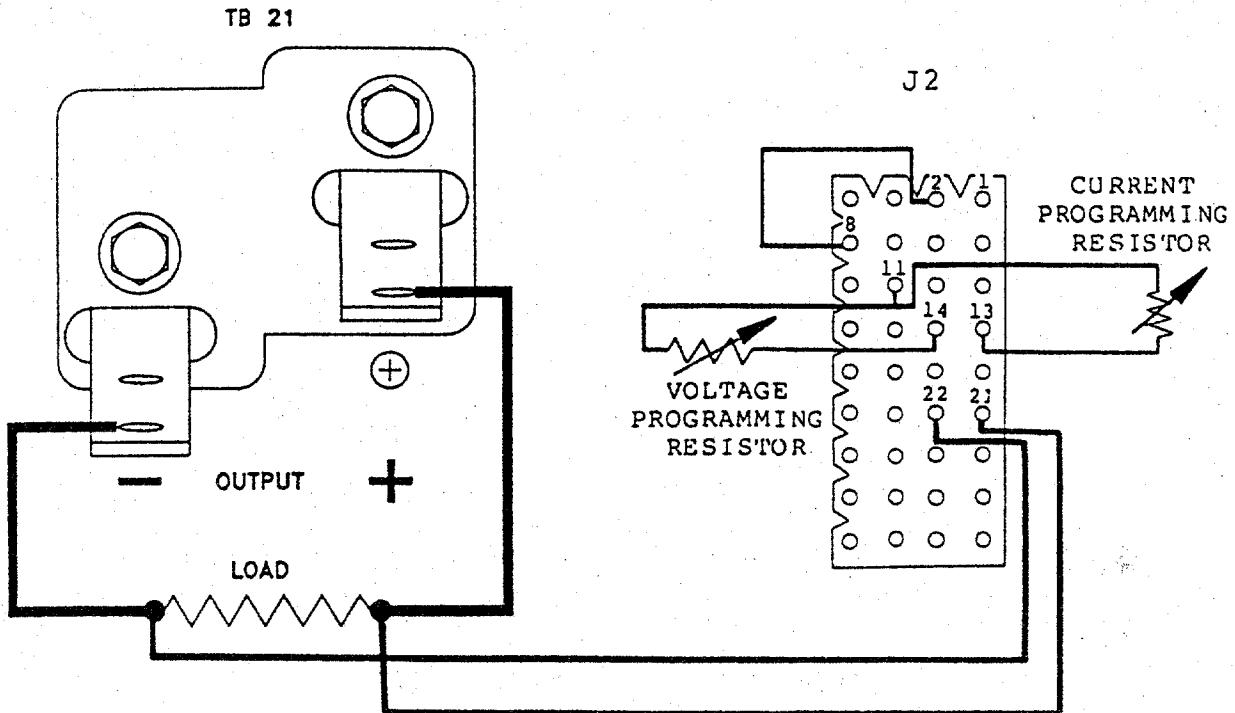

Figure 3.5 External Resistance Programming
- C. Connect both voltage and current programming resistors. (See Figure 3.5 for diagram of programming connections.) The voltage programming resistor is connected from J2 pin 14 (Remote Voltage Set) to J2 pin 11 (Virtual Ground). The current programming resistor is connected from J2 pin 13 (Remote Current Set) to J2 pin 11.